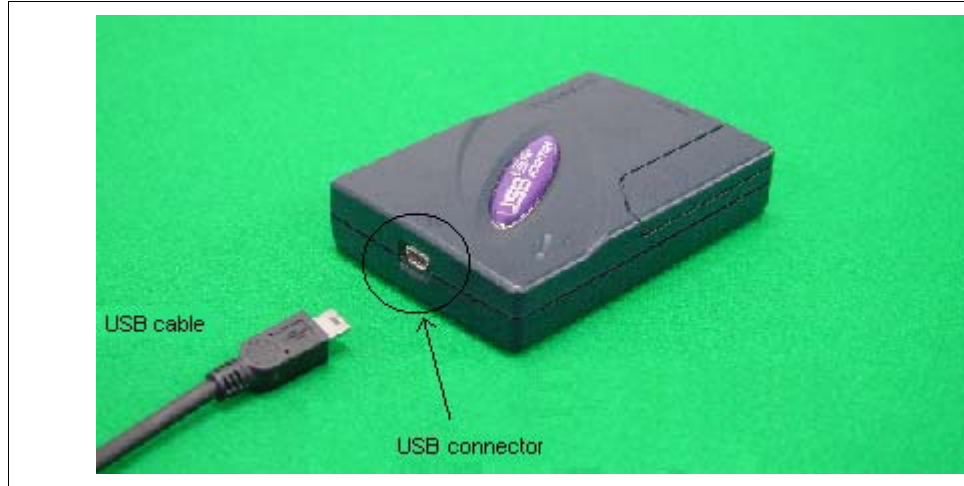

Figure 3.1 Connecting USB Cable to USB Adapter
- (1) Connect the USB cable to the connector marked  as shown in figure 3.1.